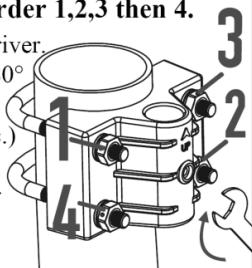

Figure 6: Sensor package mounting diagram 6-4
4. Install the base with U-bolts and threaded nuts to a pole (not included) as Figure 6 shows: